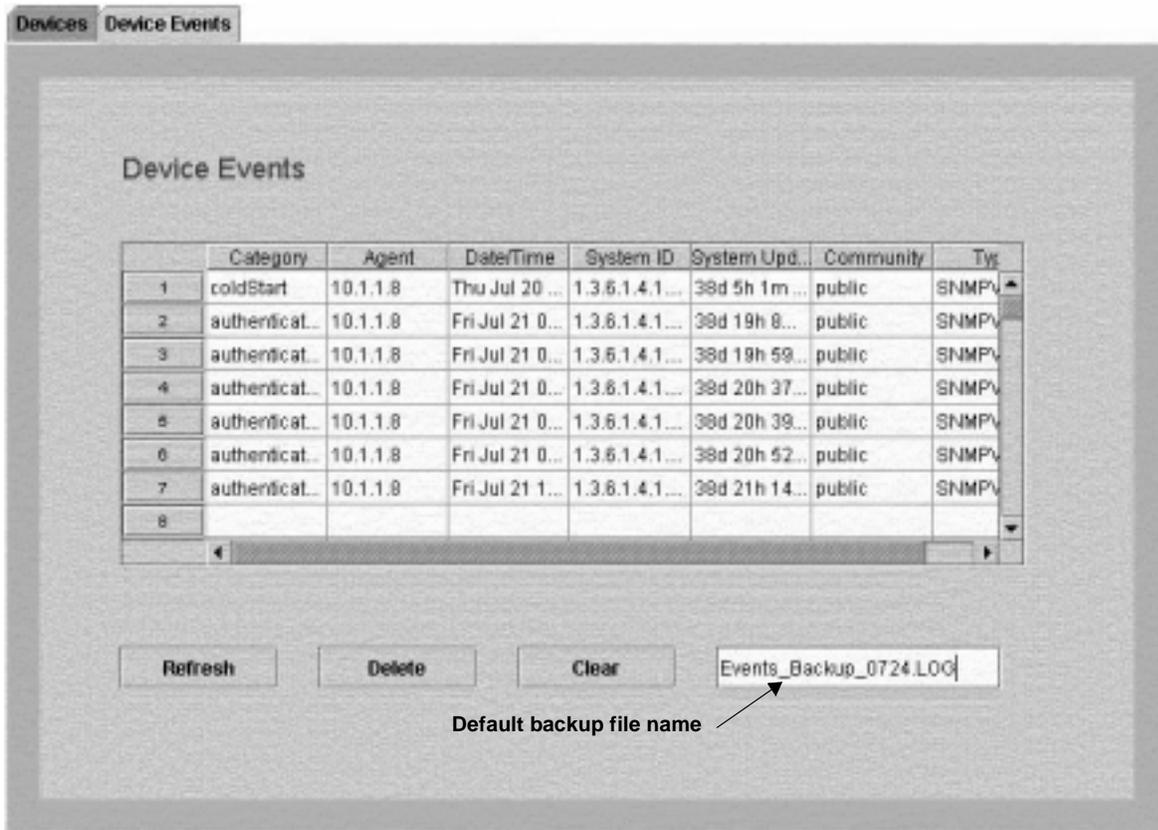

Figure 10-4: Backup File Name Field
1. Click **BACKUP**. The backup file name field displays. See Figure 10-4.